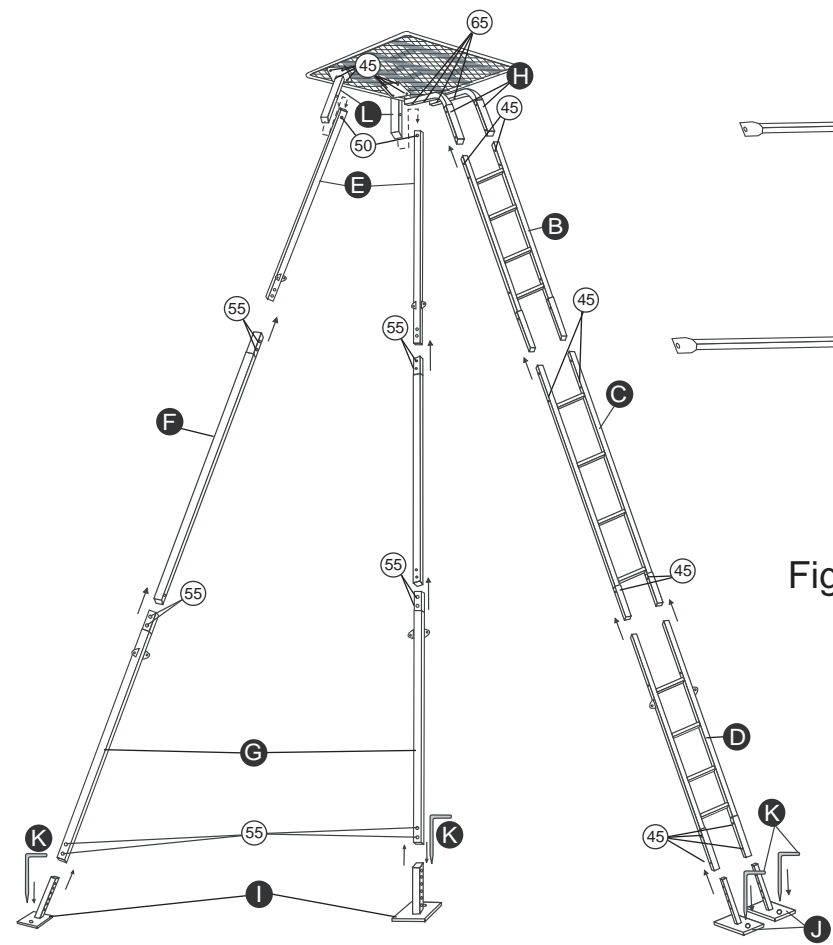

Fig. 5
8. Lean platform over and attach Rear Leg Braces **L** to the underside of the platform, facing the rear and outside. Secure with **4-45mm bolts** for each Brace. (See Fig. 5)
9. Attach the Handle Rails **H** to the underside and front of the platform. Secure with **2-65mm bolt** each side. (See Fig. 5)
1. Insert Leg **E** into Leg Brace **L** . Attach with **1-55mm bolt** for each leg. Insert Leg **F** into Leg **E** . Attach with **2-55mm bolts** for each leg. Insert Leg **G** into Leg **F** . Attach with **2-55mm bolts** for each leg. Insert Foot **I** into Leg **G** . Attach with **2-55mm bolts** for each leg. **You must secure the feet with two bolts.** (See Fig. 5)
2. Insert Top Ladder Section **B** into Handle Rails **H** . Secure with **2-45mm bolts** for each side. Attach Middle Ladder Section **C** into Top Ladder Section **B** . Secure with **2-45mm bolts** for each side. Insert Bottom Ladder Section **D** into Middle Ladder Section **C** . Secure with **2-45mm bolts** for each side. (See Fig. 5)
3. Insert Foot **J** into Bottom Ladder Section **D** . Secure with **1-45mm bolt** for each side. Stand platform upright so it is firmly on its feet. (See Fig. 5)